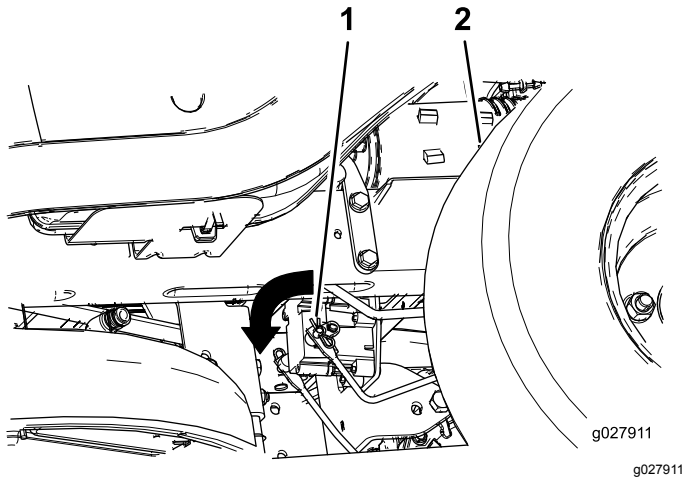

Figure 41
2. Locate the shaft on the electric brake where the brake link arms are connected (Figure 41).
3. Rotate the shaft forward to release the brake (Figure 41).